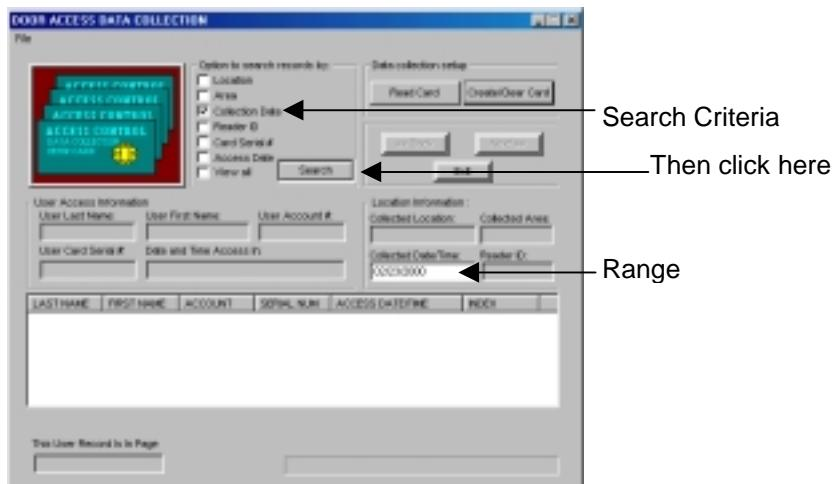

Figure 11.64 Searching Collected Data
1. In the Door Access Manager click the Create Data Collection button (Figure 11.64).